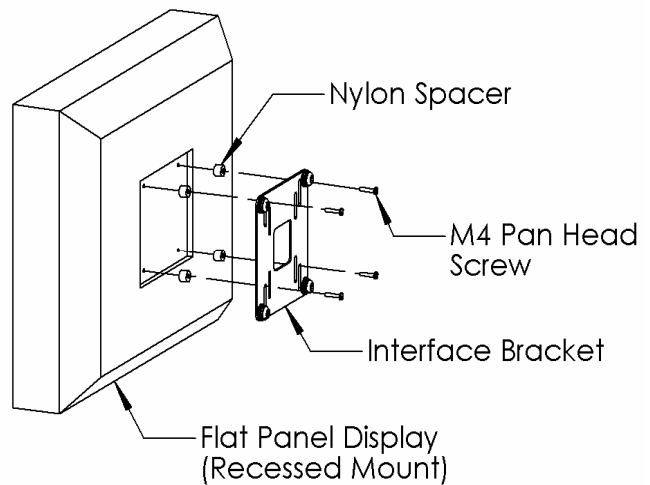

Figure 4
3. Place four Nylon spacers (3/8" or 3/4" as necessary) over four mounting holes in flat panel display (see Figure 4).